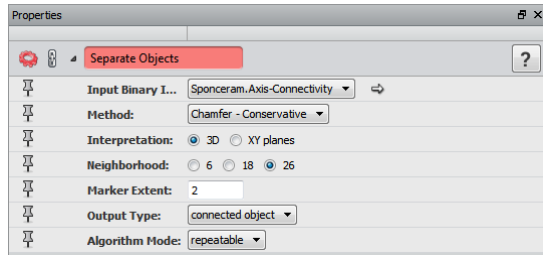

Figure 17.8: Separate Objects Module Configuration
- Apply a *Separate Objects* module on the output of the *Axis Connectivity* module. Set the Marker Extent port value to 2 and the Output Type port to *connected object*. In this example, we keep the default method (Chamfer - Conservative) since the pores are mostly spherical (see Figure 17.8).